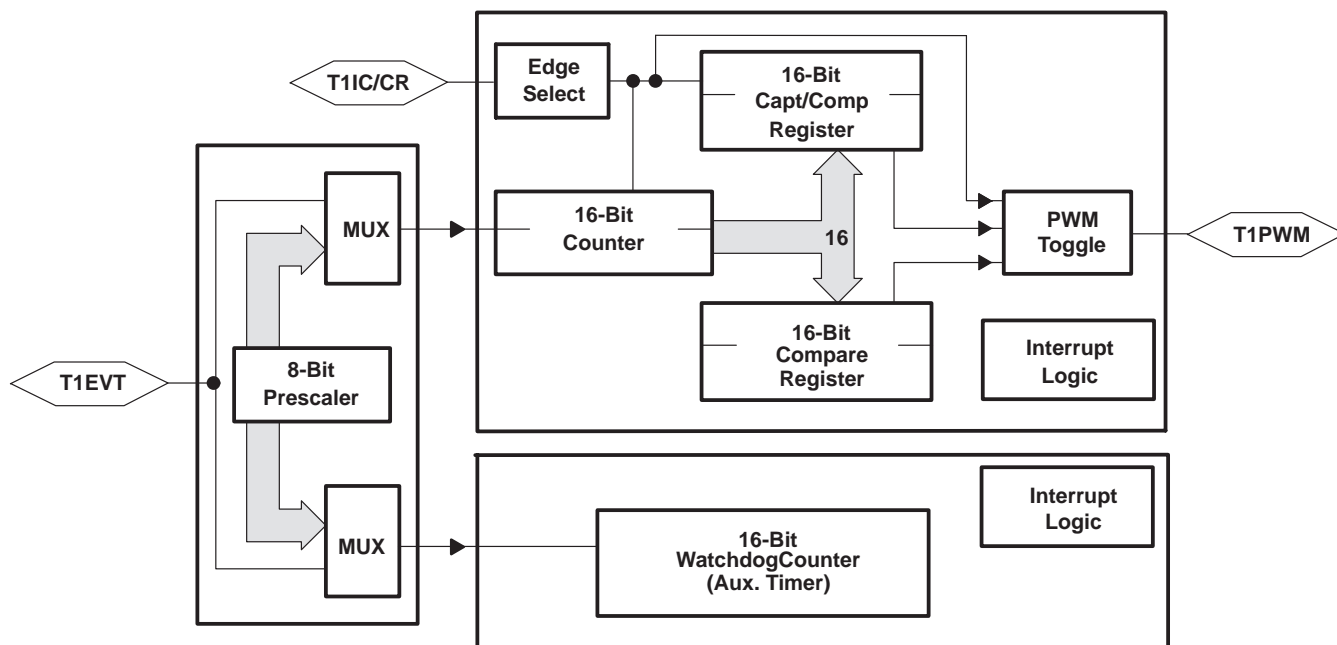

Figure 5. Timer 1 Block Diagram
The programmable timer 1 (T1) module of the TMS370Cx5x provides the designer with the enhanced timer resources required to perform realtime system control. The T1 module contains the general-purpose timer and the watchdog (WD) timer. The two independent 16-bit timers (T1 and WD) allow program selection of input clock sources (real-time, external event, or pulse-accumulate) with multiple 16-bit registers (input capture and compare) for special timer function control. The T1 module includes three external device pins that can be used for multiple counter functions (operation mode dependent) or used as general-purpose I/O pins. T1 module is shown in Figure 5.